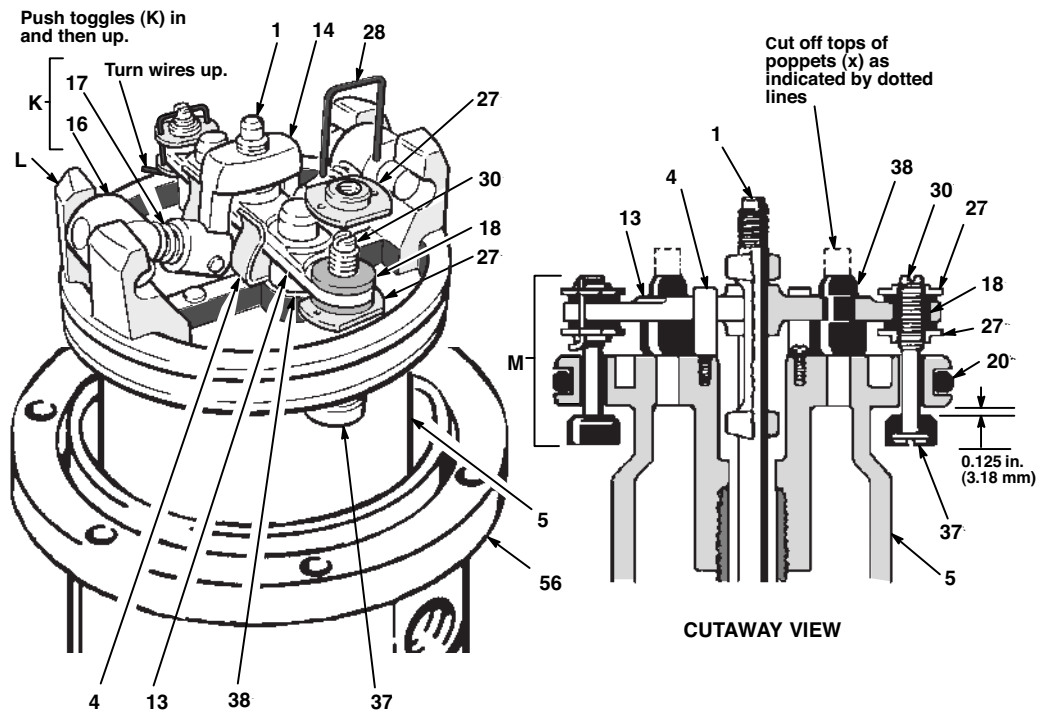

FIG. 5
6. Use a screw driver to push down on the trip rod yoke (14) and snap the toggle assemblies (K) down. See FIG. 5. Remove the lock wires (28) from the adjusting nuts (27) of the transfer valves (M). Screw the top adjusting nuts (27) off. Screw the valve stems (30) out of the grommets (18) and lower adjusting nuts (27). Take the valve poppets (37) off the stems and squeeze them firmly to check for cracks.
7. Grip the toggle rockers (16) with a pliers. Compress the springs (17) and swing the toggle assembly (K) up and away from the piston lugs (L), and remove the parts. Check that the valve actuator (13) is supported by the spring clips (4), but slides easily into them. (FIG. 5)
8. Remove the trip rod yoke (14), valve actuator (13) and trip rod (1). Check the exhaust valve poppets (38) for cracks.
- NOTE:** To remove the exhaust valve poppets (38), stretch them out and cut with a sharp knife.
9. Pull the piston (5) up out of the base (56) and inspect the piston o-ring (20) and the o-ring in the base casting.
4. Be sure the o-rings re in place. Slide the piston rod down through the throat bearing and lower the piston (5) into the air motor base (56).
5. Pull the exhaust valve poppets (38) into the valve actuators (13) and clip off the top part shown with dotted lines. (FIG. 5)
6. Install the transfer valve poppets (37) onto the valve stems (30), bottom adjusting nuts (27), grommets (18), and top adjusting nuts (27) on the piston (5). Assemble the trip rod (1), valve actuator (13), trip rod yoke (14), and toggle assemblies (K) on the piston. (FIG. 5)